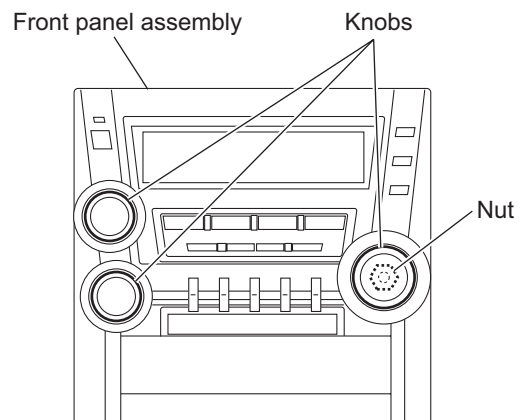

Fig.28
- (1) From the outside of the front panel assembly, pull out the knobs toward this side. (See Fig.28.)
- (2) Remove the nut attaching the encoder board. (See Fig.28.)